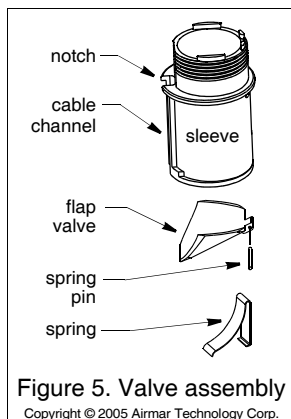

Figure 5. Valve assembly
Should the valve fail, it will need to be removed for servicing. Follow the steps below. If a new valve assembly is required and not immediately available, *the valve sleeve must be reinstalled in the multisensor housing for a watertight seal.* Remove the flap valve, spring pin, and spring from the sleeve (see Figure 5). Then reinstall the sleeve in the housing.
4. Clean, repair, or replace the valve assembly so the flap valve moves freely and seats against the sleeve (see Figure 5).
7. Remove the safety wire from the multisensor. With the combined valve assembly and paddlewheel insert ready in one hand, remove the blanking plug. Slide the assembly into the multisensor housing *with the arrow on the top pointing forward toward the bow.* Be sure the cable fits into the cable channel and the notch in the sleeve fits into the key in the housing (see Figure 5). (A pushing twisting motion will locate the key.) Screw the CAP nut in place, being careful to avoid cross-threading. **Hand-tighten** only. Do not over tighten.